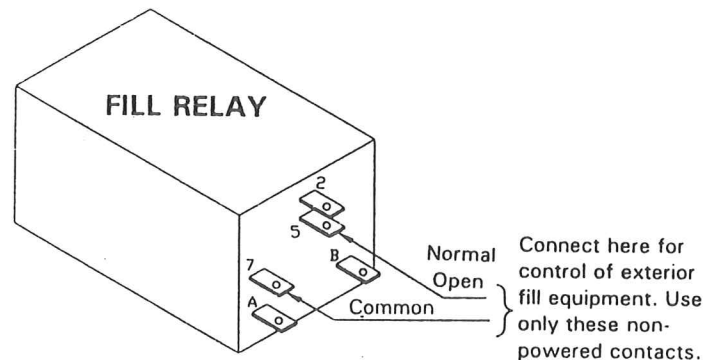

Figure 23 Fill Relay Non-Powered Contacts
3. The power for the fill equipment motor magnetic starter coil is controlled by the non-powered contacts of the relay provided in the control cabinet. Use terminals #5 and #7. See Figure 23.